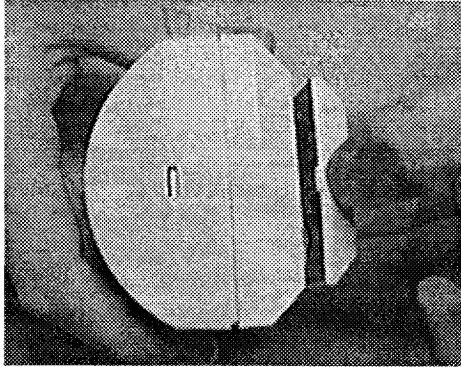

Figure C.2. Mounting Plate Removal
1. Remove mounting plate (see Figure C.2) by using a small screw driver, gently prying away the plate from the PIR body.
1. Remove mounting plate (see Figure C.2) by using a small screw driver gently pry the plate away from the PIR body.